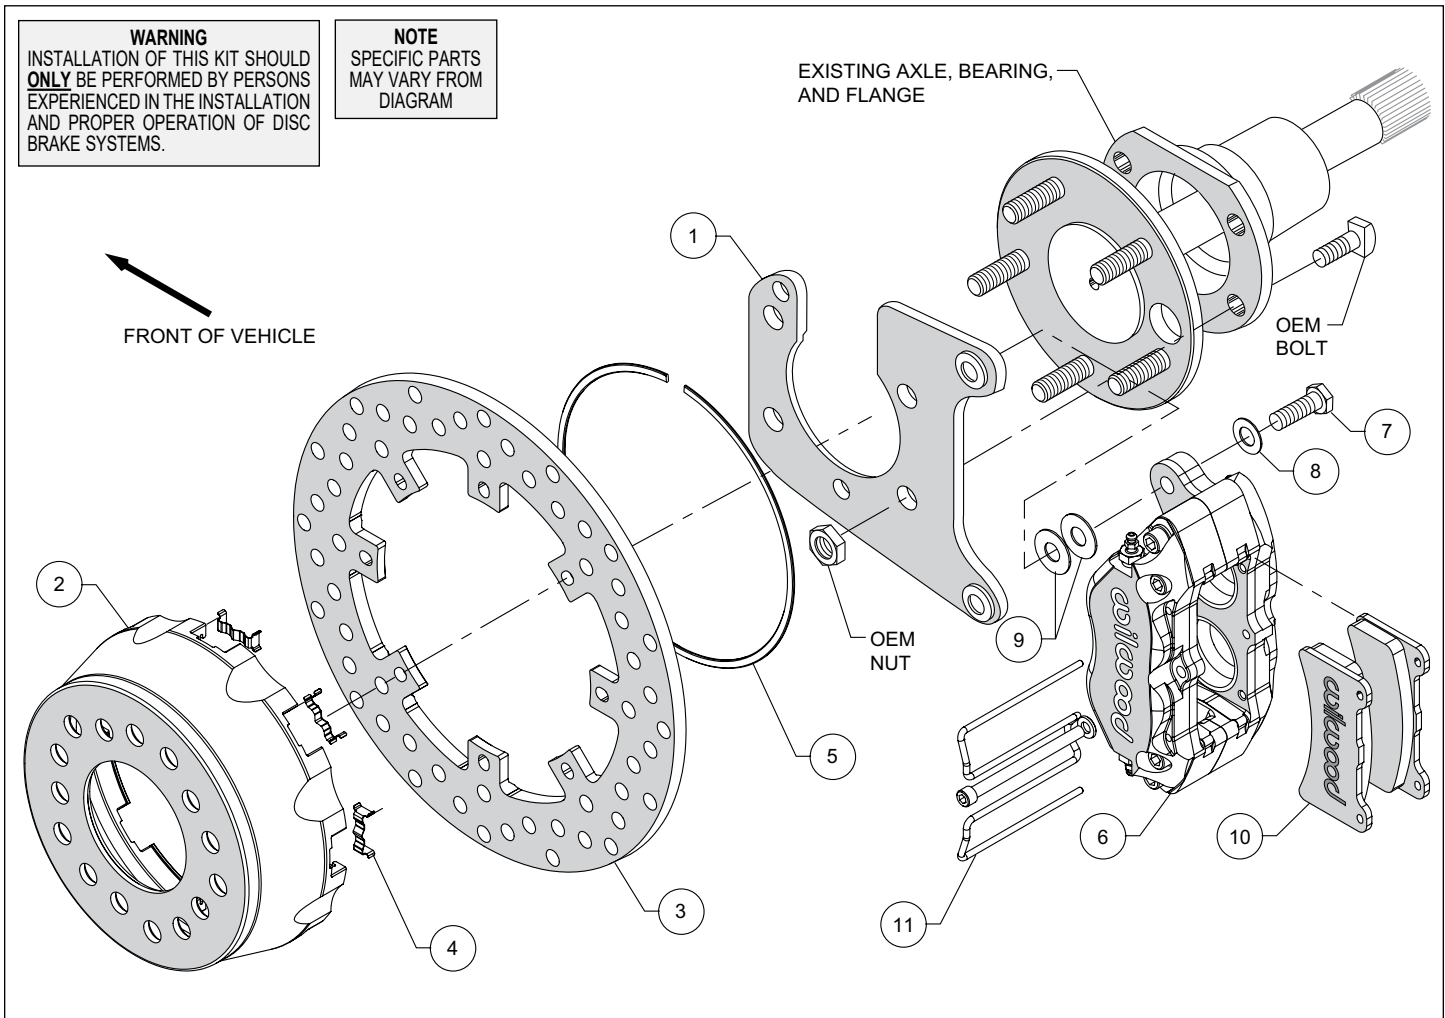
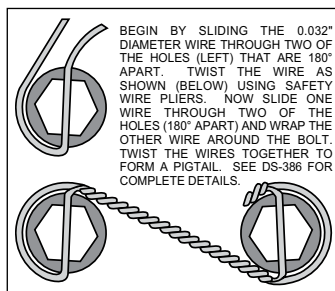

Figure 1. Typical Installation Configuration
Figure 5. Safety Wire Diagram
**Assembly Instructions** (numbers in parenthesis refer to the parts list and Figure 1 on the preceding pages): **CAUTION:** All mounting bolts must fully engage clinch nuts. Be sure to check that all bolts are either flush or protruding through flanged side of clinch nut after shimming, Figure 5.
- Install the caliper mounting bracket (1), with the slot for the axle pointing upward, to the housing flange using the OEM bolts and nuts, as shown in Figure 1 and Photo 1. Ensure that the heads of the clinch nuts are facing outboard, Photo 1. Apply red *Loctite*® 271 to the OEM bolt threads and torque to OEM specifications.
- Insert the dynamic mount wear clips (4) into the slots in the hat (2) making sure the tabs snap in place, Photo 2. Orient the rotor (3) as shown in Figure 1 and Photo 3, with the flush mount tab side facing the hat. Attach the rotor to the hat using snap ring (5) by pushing down on the rotor and installing the ring into the groove in the hat, as shown in Photo 4. Ensure that the ring is fully engaged in the groove.
- Align the correct hole pattern in the hat (2) with the axle stud pattern and slide the hat/rotor assembly onto the axle hub. **NOTE:** The hat must fit flush against the axle flange or excessive rotor run out may result. Install three lug nuts (finger tight) to keep the hat/rotor in place while continuing with the installation. **NOTE:** Some OEM and aftermarket axles come with stud sizes larger than 0.50" diameter. Verify stud size, and if necessary, have a qualified machine shop drill the hats to the correct size.
- NOTE:** Please reference the caution statement at the beginning of the assembly instructions. Mount caliper (6) onto the mounting bracket (1) using bolts (7) and washers (8), as shown in Figure 1. Initially place two .035" thick shims (9) on each bolt between the caliper and the bracket, Photo 5. Temporarily tighten the mounting bolts and view the rotor (3) through the top opening of the caliper. The rotor should be centered in the caliper, Photo 6. If not, adjust the caliper by adding or subtracting shims between the bracket and the caliper. Always use the same amount of shims on each of the two mounting bolts. **NOTE:** The end of each bolt must be flush with or slightly protruding from the head of the clinch nut. If necessary, place spare shims between washer and caliper mounting ear to achieve the proper clinch nut engagement, as shown in Figure 4. Once the caliper alignment and clinch nut engagement are correct, remove the bolts one at a time, apply red *Loctite*® 271 to the threads, and torque to 40 ft-lb.
For an added measure of security, the bolts may be safety wired using standard 0.032 inch diameter stainless steel safety wire as shown in Figure 5. Please refer to Wilwood's data sheet DS-386 (available at [www.wilwood.com/Pdf/DataSheets/ds386.pdf](http://www.wilwood.com/Pdf/DataSheets/ds386.pdf)) for complete safety wire installation instructions.